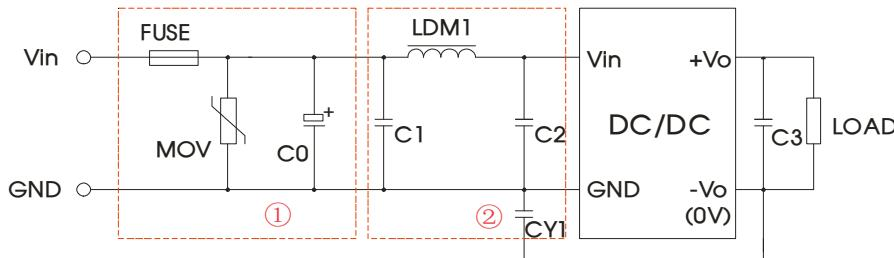

Fig. 3
①For EMC tests we use Part ① in Fig. 3 for Immunity and Part ② for Emissions test. Selecting based on needs.
②If there is no recommended parameters, the model no require the external component.